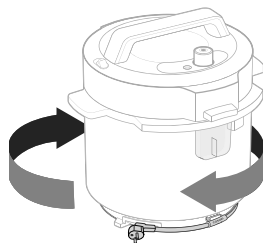

Figure 10.10
3. Wrap the power cord clockwise around the base of the pressure cooker and hang the power cord clip onto the cord hook. **[Figure 10.10]**